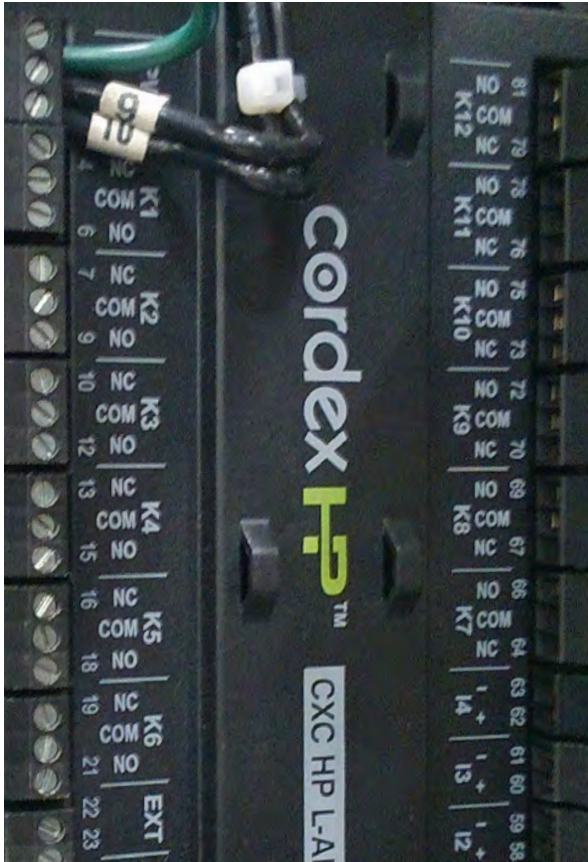

Figure 30: Alarm relay pinouts
1. Use the Form C relay contacts on the ADIO peripheral to extend various alarm or control signals to an external site monitor. Figure 30 shows the peripheral alarm relay pinouts. Table L lists the factory default settings.